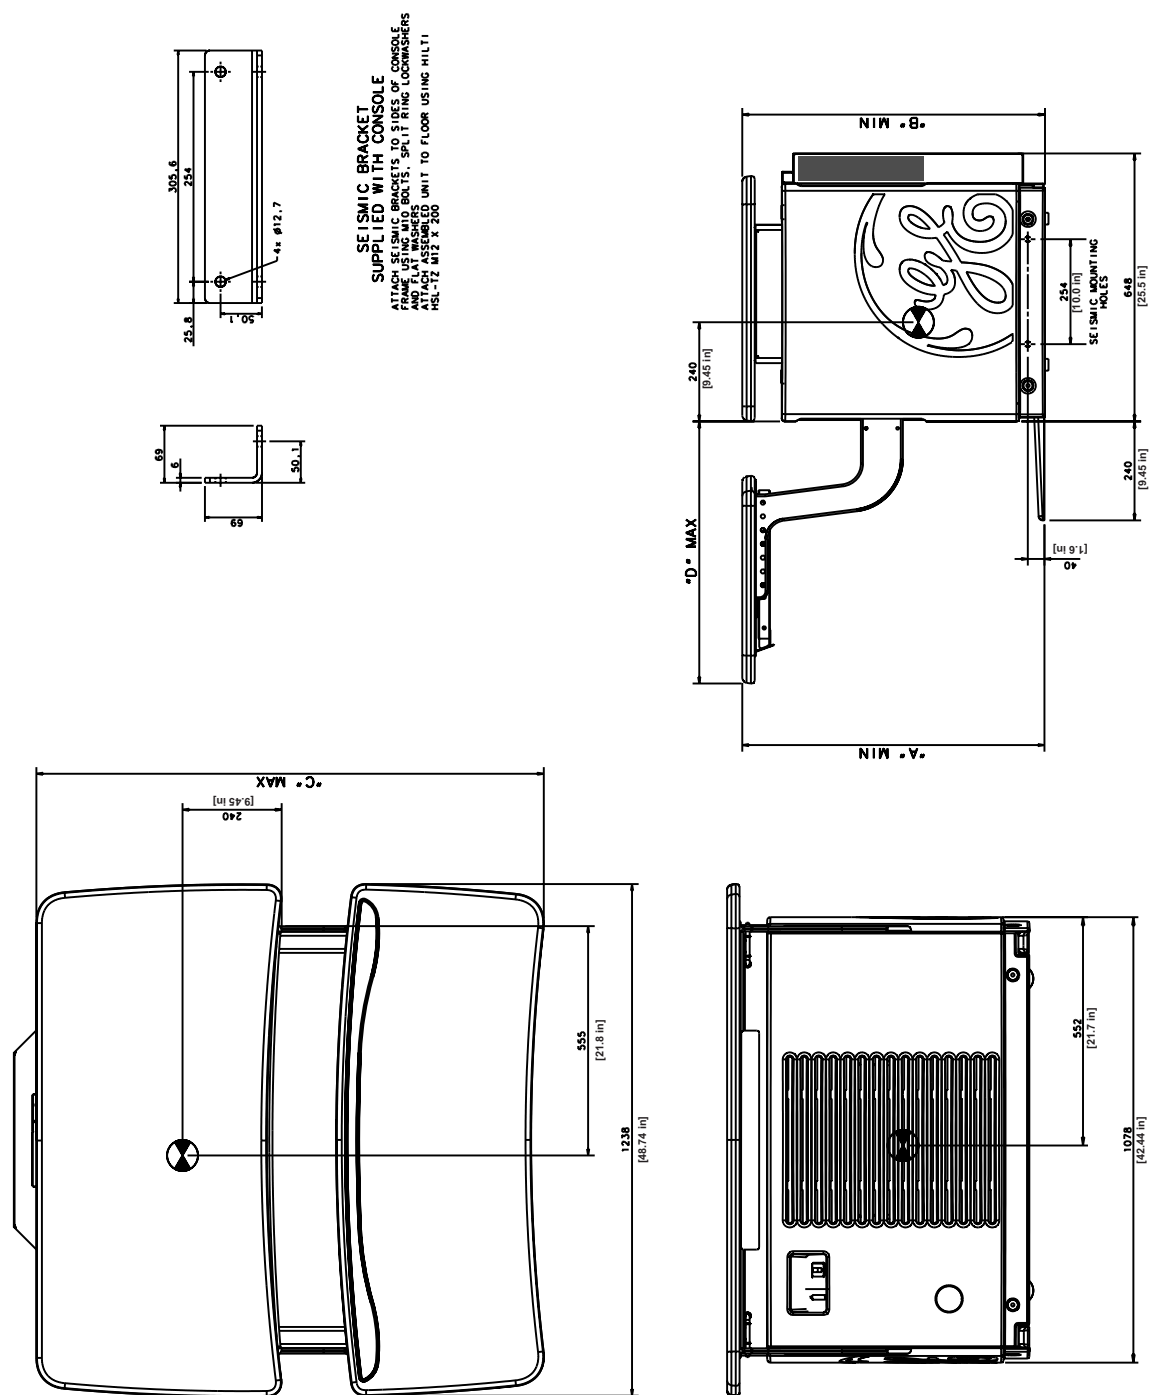

Figure 6-8 Operator Console
- Operator's Console/Computer: Figure 6-8